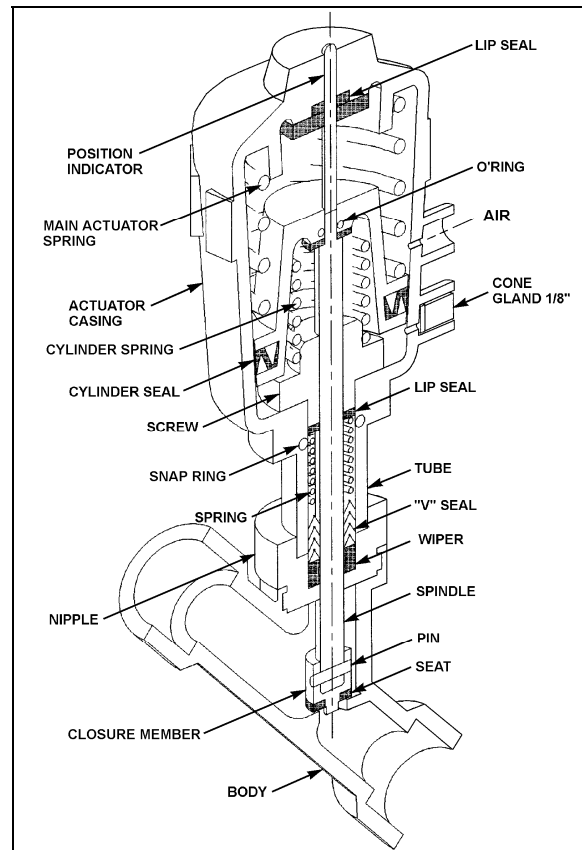

FIGURE 42: PNEUMATIC WATER VALVE
2. The water valve need not be removed from the line. Unscrew nipple, the actuator casing, tube, spindle and closure member can be removed (Fig. 42).
2. Tighten the nipple in place in the body cavity as per figure 42. Fasten pilot solenoid valve to the pneumatic water valve. Reconnect air supply pressure and electrical current to the pilot solenoid valve.